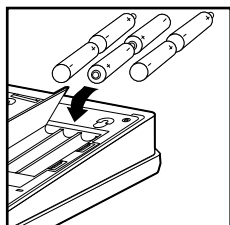

Figure 3 – battery compartment
1. Six "AA" size, Nickel Metal Hydride (Ni-MH) rechargeable batteries are used for back-up during a power outage (Fig 3). They power the **RC** for approximately 5 hours. **DO NOT USE ALKALINE BATTERIES**, they will damage your equipment.